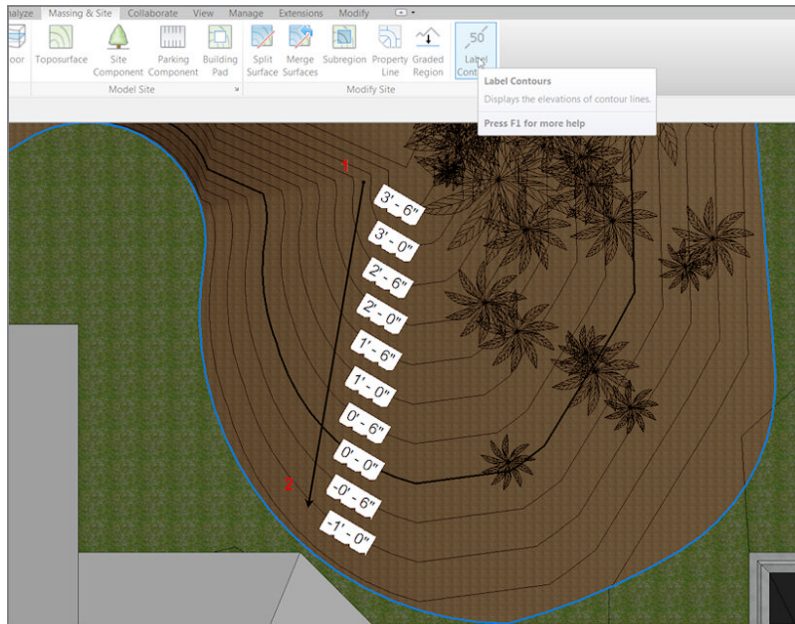

FIGURE 18.18: Labeling the contours
1. On the Massing & Site tab, click the Label Contours button, as shown in Figure 18.18.
2. Pick a point to the outside of the toposurface, labeled 1 in Figure 18.18.
3. Pick a second point near the building, labeled 2 in Figure 18.18. After you pick the second point, the contours are labeled.